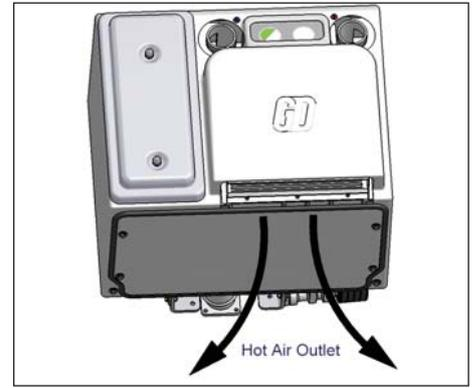

Figure 10b - Hot Air Out
- The air is blown across the integral radiator by the electric cooler fan and the exhaust air is discharged from the front of the package as shown in Figure 10b